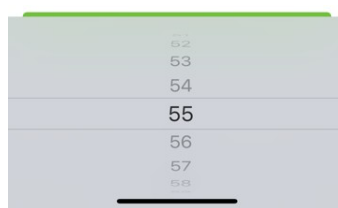

Figure 12: Select Segment step for data collection.
- 1.2.8.3. **IMPORTANT.** Turn on the **Sample** switch adjacent to the step of the process for which fluorescence data is to be recorded. For the SalivaDirect™ protocol this should be the PCR extension step (30 sec, 55 °C). See **Figure 12**. *The sample switch must be selected for the device to collect fluorescence data during the run. This is the first thing to check if your run appears to have no data.*